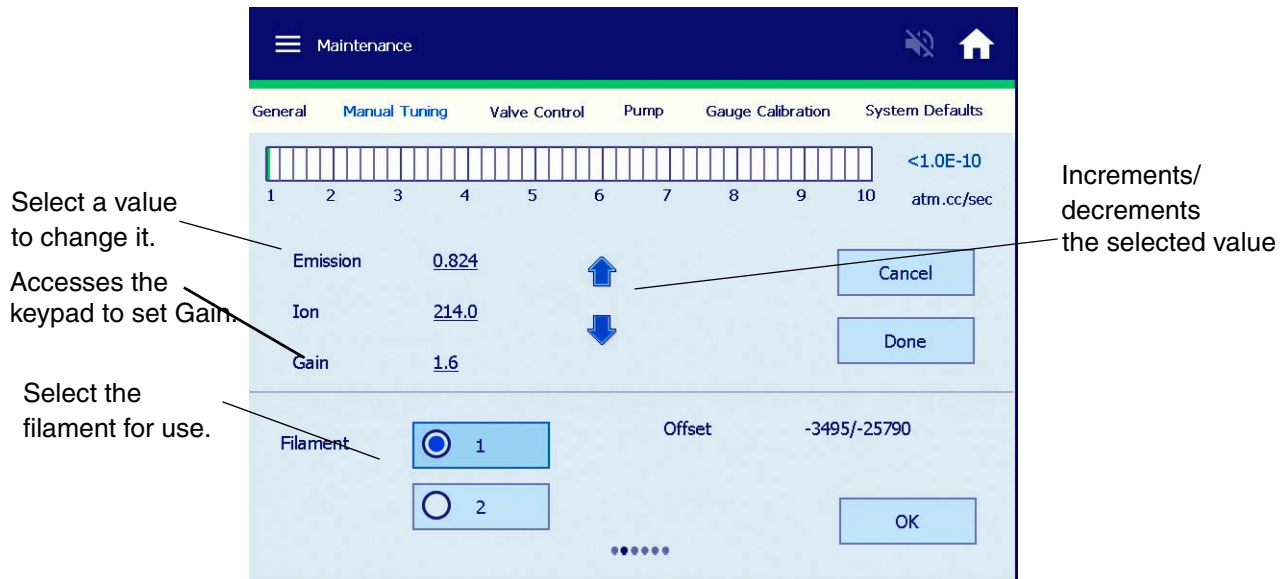

Figure 7-7 Manual Tuning
- Press **Manual Tuning** and the Manual Spectrometer Tuning screen appears (Figure 7-7).